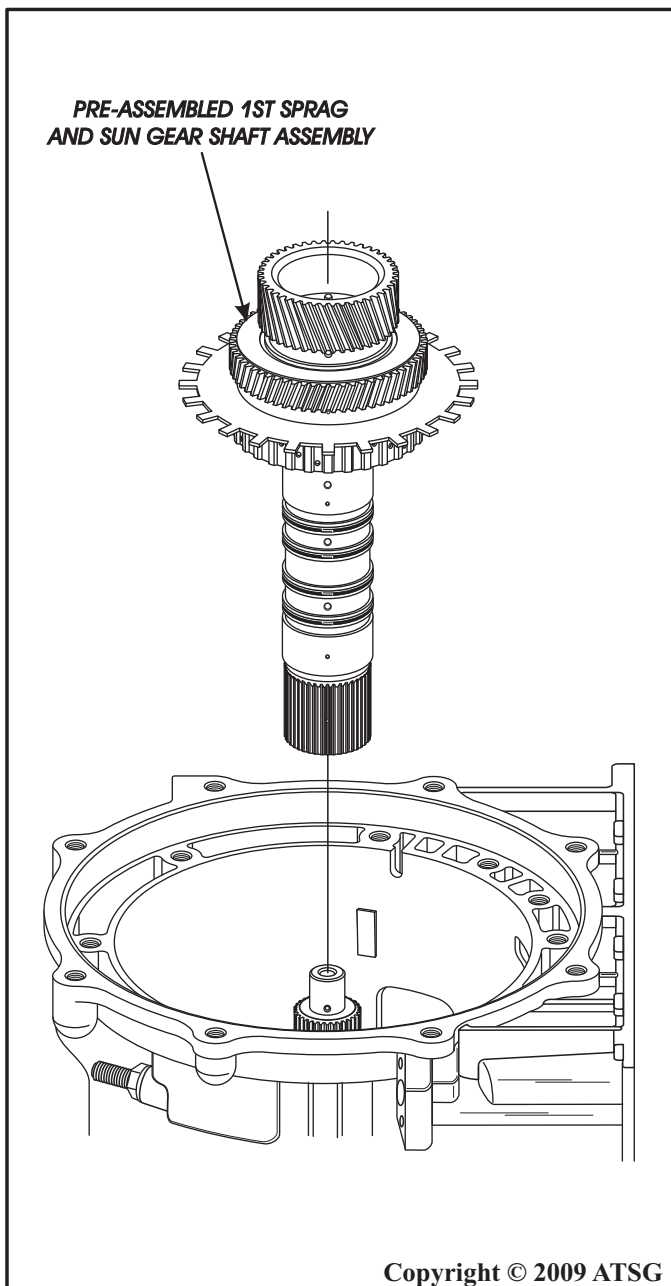

Figure 217
57. Install the pre-assembled 1st sprag and sun gear shaft assembly, as shown in Figure 217, by rotating back and forth to engage the high and low/reverse clutches on the hub.